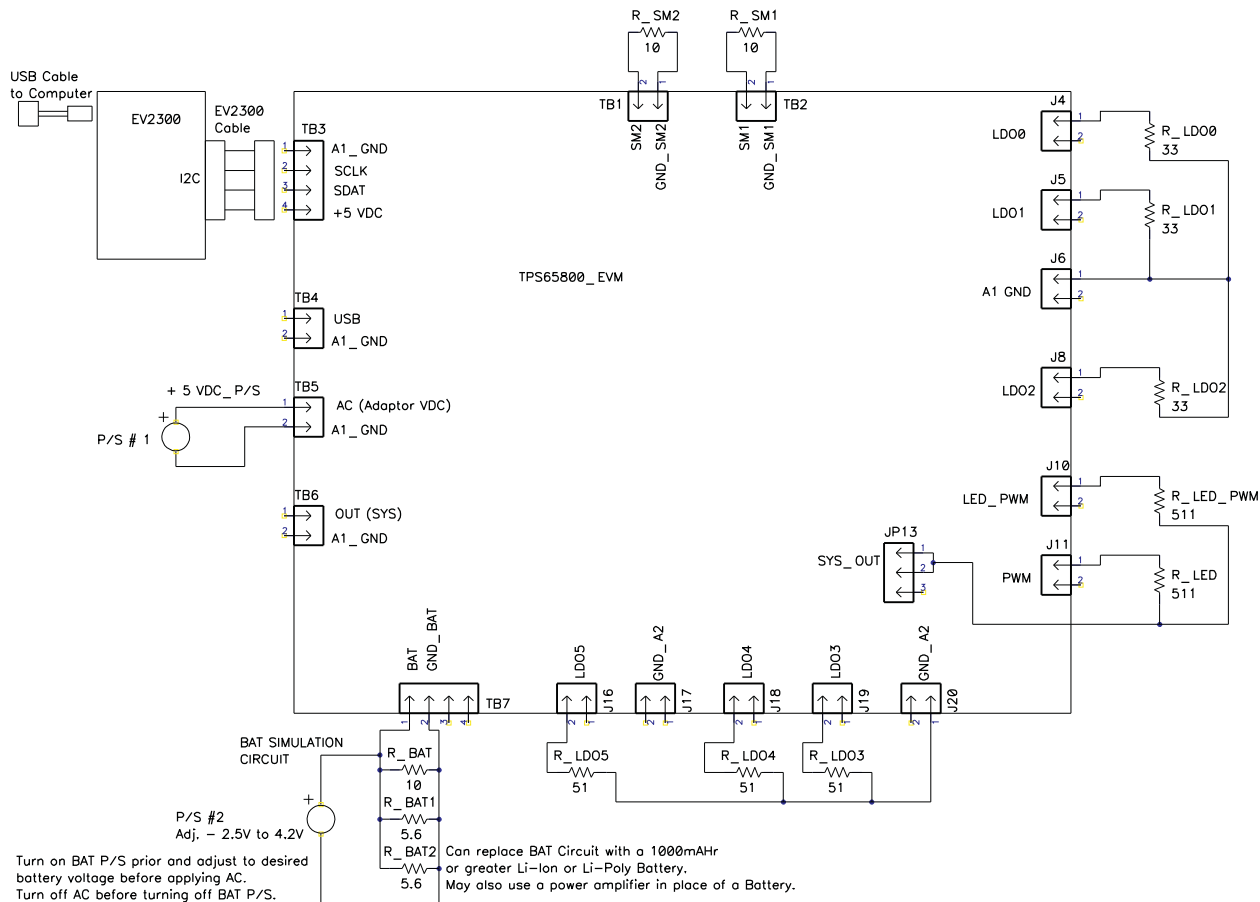

Figure 2. Equipment and EVM Setup
3. SM1/2 load board; 10-Ω, 1-W resistor load for each output TB1-1/2 and TB2-1/2. See Figure 2.
4. LDO load board: 33-Ω, 1-W each for J4-LDO0 to A1 GND, J5-LDO1 to A1 GND, J7-LDO2 to A1 GND; 511-Ω, 0.5-W pullup resistors J10-LED_PWM to TP29-SYS_OUT and PWM to TP29-SYS_OUT; 51-Ω, 1-W load resistors for J19-LDO3 to A2 GND, J18-LDO4 to A2 GND, J16-LDO5 to A2 GND. See Figure 2.
5. Battery-simulated load board: Two 5.6-Ω, 20-W and one 10-Ω, 5-W resistors in parallel and connected TB7-1/2 (~2.19 Ω). See Figure 2.
- (d) Connect the loads shown in Figure 2. These are suggested loads, but the user can substitute any load that is within the specification of the IC. The PWM and LED_PWM are open-drain outputs and require a external pullup resistor to OUT (System Power). TB6-1 or TP29 can be used as a source for SYS_OUT.
- (e) Connect the battery-simulated load board shown in Figure 2 below UUT; leave bias supply off. A single-cell Li-ion battery can be used in place of the simulated battery if quick battery voltage adjustment is not needed for evaluation. The battery supply should be the first supply on and the last supply off to avoid putting the BAT output on an unpowered external supply. A power Schottky diode can be placed in series with the positive lead (anode to P/S+) of the battery supply to protect the supply, if necessary.
- (g) Preset P/S#1 to 5.1 VDC+/-0.1VDC, Current Limit to 2.5A, P/S#2 to 3.5VDC+/-0.1VDC, Current Limit to 2.5A, turn off supplies, connect P/S#1 to TB5-1&2 (+ to AC), and connect P/S#2 to TB7-1&2 (+ to BAT_OUT). See Figure 2.